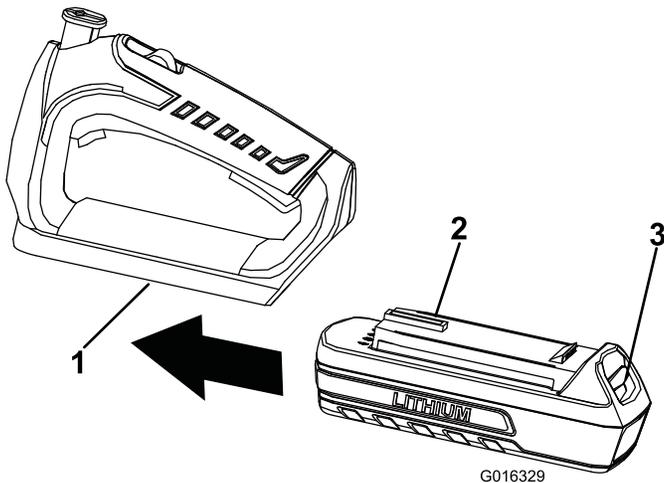

Figure 3
1. Align the tongue of the battery pack with the cavity in the handle housing (Figure 3).